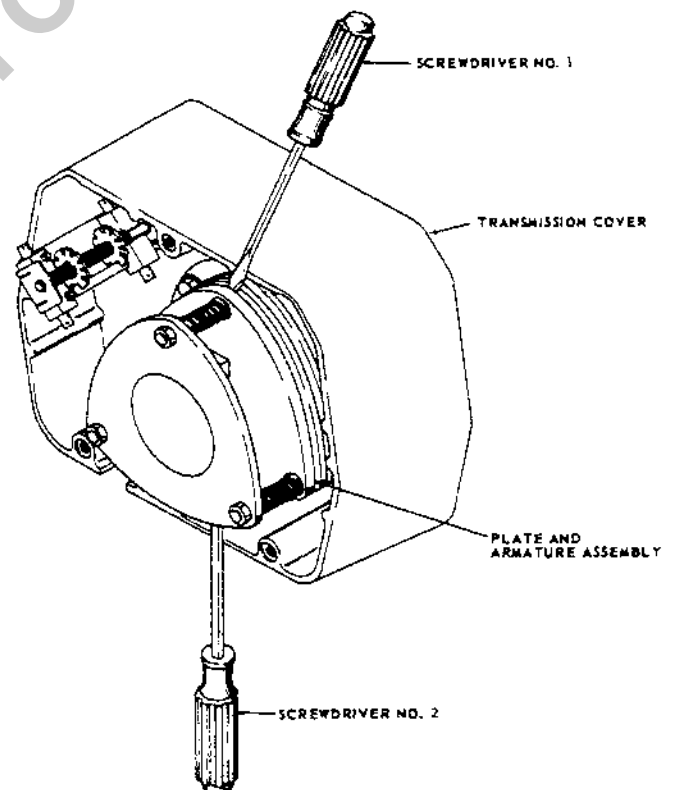

FIGURE 4-3. LOAD BRAKE FUNCTION CHECK
- f. Check mechanical load brake function (see Figure 4-3).
- Referring to Figure 4-3 and Figure 8-8, place screwdrivers No. 1 and No. 2 behind the plate and armature assembly and prepare to pry against the transmission cover.